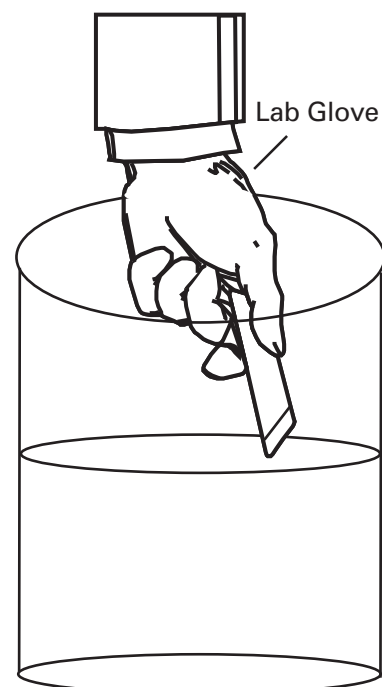

Figure 3
2. Wearing lab gloves, students or the teacher should dip the TLC plate into the reagent to immerse it. The plate should be immersed for only a second. See figure 3.